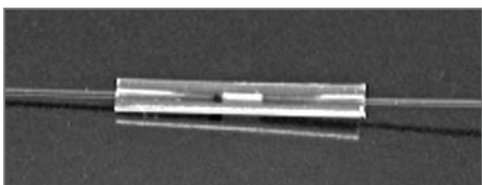

FIGURE 6 Properly loaded FEP union
- The sleeve is now ready for the insertion of a square cut length of fused-silica tubing or, for example, the distal end of a New Objective PicoTip®. Push the fused-silica tubing into the sleeve until the tubing contacts the end of the frit as in Figure 6.